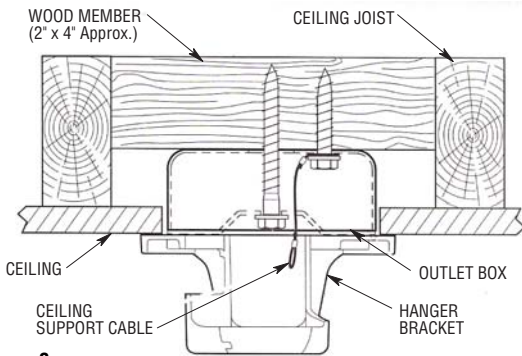

Figure 8
- 1. Securely attach the ceiling support wire to the ceiling joist or structural member using the 3/8 x 2" hex lag bolt and flat washer. Drill a maximum diameter 1/4" pilot hole into the supporting member to prevent splitting or cracking. Install a washer onto the screw and insert the screw through one of the loops (Figure 8). Securely tighten the screw into the structure.
- 2. Drill a second maximum diameter 1/4" pilot hole up through the center of the electrical box (Figure 8). Install the hanger bracket assembly using 3/8 x 5" lag bolt and 3/8" flat washer. Route the electrical supply wires through the opening provided on the hanger bracket. Do not completely tighten the lag bolt, leave it loose enough such that the hanger bracket assembly can be freely rotated against the electrical box.